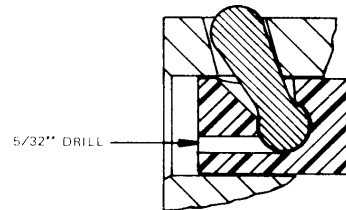

Figure 3
*NOTE: On the spline drive anvils, should any of the socket retainer parts need replacing, a 5/32" hole should be drilled in the socket retainer plunger, No. 867950, as shown in Figure 3. Insert a pin punch in the drilled hole and lightly tap the punch under the socket retainer pin, No. 867951. Pry on the punch to pop the pin out of its pocket in the plunger.